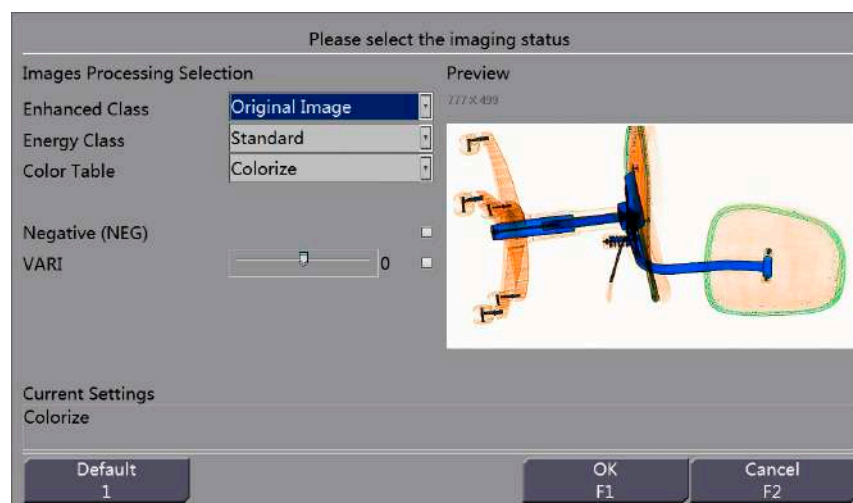

Figure 14-6 Imaging Status Interface
Step 6 Click  on the right of Imaging Status to display the Please select the imaging status interface, as shown in Figure 14-6. After image processing, Click “OK”.